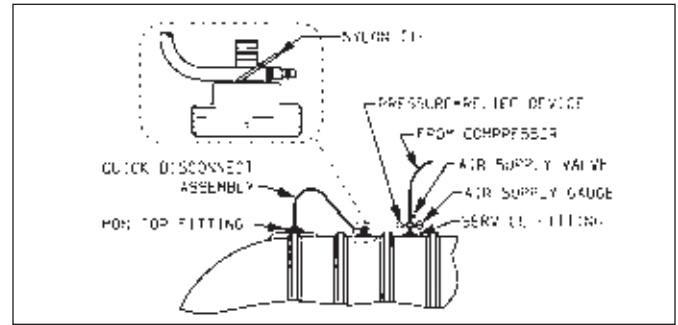

FIGURE 3-1
Note: In order to test the primary tank alone, the test hose must not be connected to the service fitting. Keep the nylon tie in place. See quick disconnect assembly in FIGURE 3-1.
3.3.2. Free the hose from the service fitting by cutting the nylon tie. (See FIGURE 3-1.)